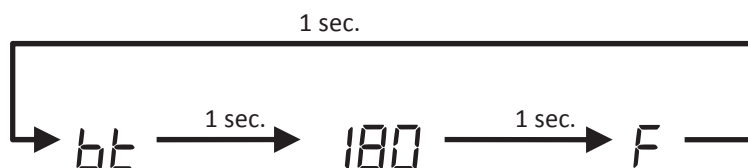

FIGURE 11.3: TYPICAL OPERATING MODE DISPLAY (BOILER TEMP SHOWN)
- 2) Operating Mode - Provides additional information about the current status of the boiler. Operating mode is entered by pressing the **I** button shown in Figure 11.0. When this button is first pressed in Status mode, the display will alternately display *hŁ* and the current boiler water temperature as shown in Figure 11.3. Pressing the **I** button again will display the next line item shown in Table 11.2. In the same manner it is possible to advance through all of the “parameters” shown in Table 11.2. To return to Status mode, press **I** repeatedly until *5ŁH* once again appears on the display. Alternatively, the control will return to Status mode if no key is touched for 30 minutes.
NOTE: In operating mode, holding either the $\uparrow$ or $\downarrow$ button while viewing a given parameter will keep the display on the actual reading. For example, pressing $\uparrow$ while reading boiler temperature as shown in Figure 11.3 will keep the display on 180 for as long as this button is held. This makes it easier to view readings “live” if they are changing rapidly.